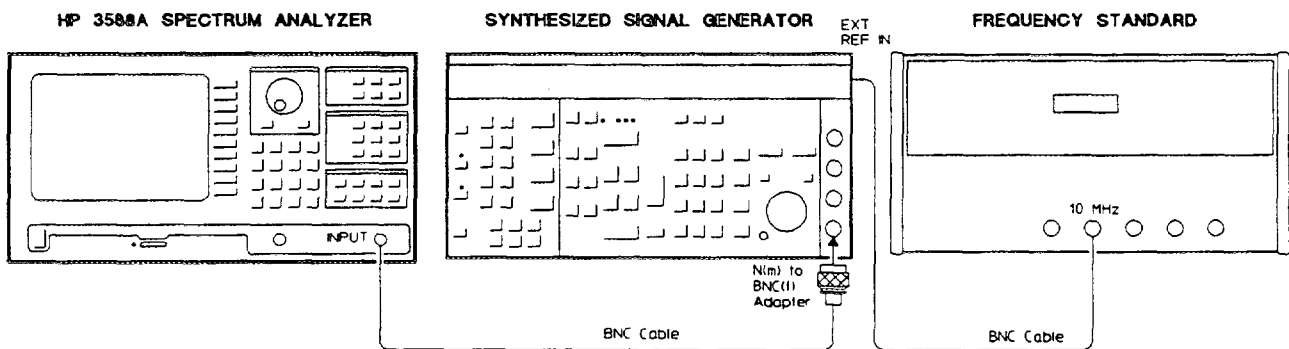

Figure 3-1. Frequency Accuracy Setup
- BNC Cables (2)
1. Connect the test equipment as shown in figure 3-1.